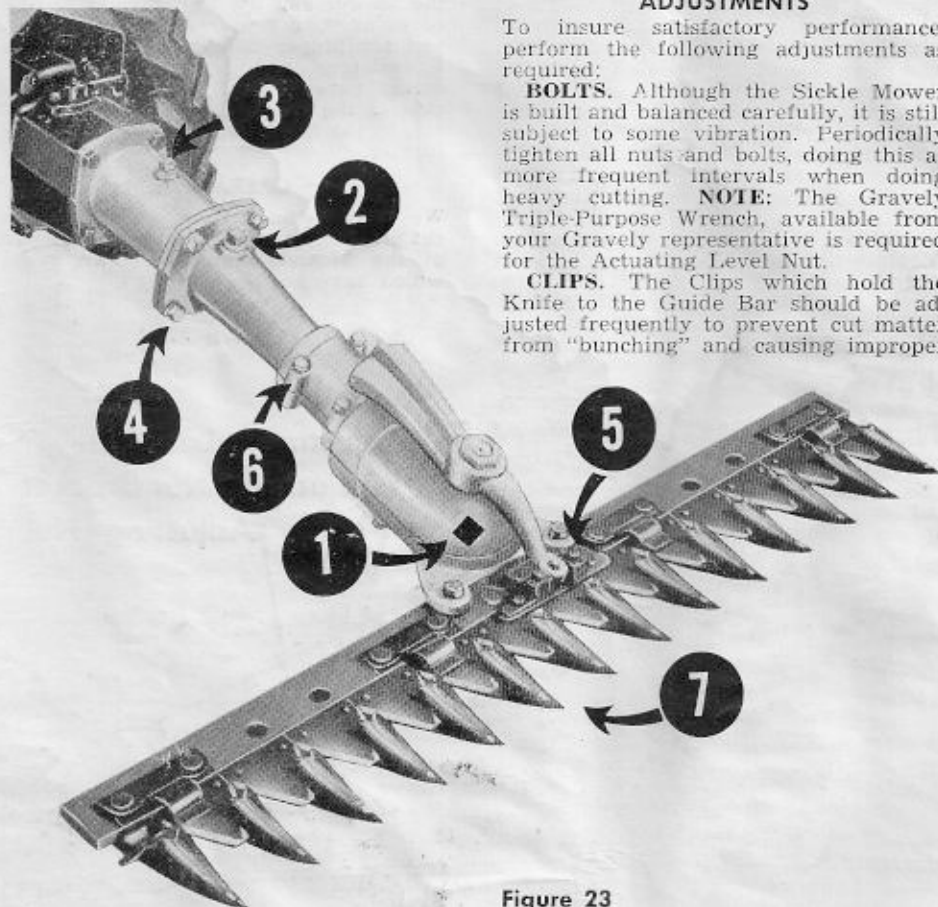

Figure 23
Check the Drive Assembly oil level every four hours of operation by removing the Oil Level Plug, 1 in Figure 23. If oil runs out, the oil level is all right; if not, oil must be added.
To add oil, remove the Oil Filler Plug, 2 in Figure 23, and pour oil through the Oil Filler Hole until oil begins to run out the Oil Level Hole. Replace both Plugs before mowing.
To lubricate the Universal Joint, remove the Grease Plug, 3 in Figure 23, and fill about half-full with Mobilgrease MP.
Because the Universal Joint needs lubrication only occasionally, you may prefer this method: with the Mower detached from the Tractor, remove the Safety Clutch and four bolts, 4 in Figure 23, which hold the lower column to the universal housing and slip the housing partly off. Then apply Mobilgrease MP generously to the Universal Joint (coat it all over with one to 1½ inches of Mobilgrease MP. Reassemble all parts,
For best performance, keep the Knife Sections sharp. To remove the Knife for sharpening, remove the Knife Bracket Screws, 5 in Figure 23, and slip the Knife out either side. Grind the Knife Sections along the same bevel as ground originally. When replacing the Knife, make sure the Knife Bracket Screws are tightened firmly.
**SWIVEL ACTION.** To increase swivel action (allowing the Mower to follow the contour of the ground), loosen the bolts, 6 in Figure 23. When these bolts are tightened firmly, the Mower is held in a rigid position. The bolts should be tight enough so the Guide Bar will hold its position until lowered, but loose enough for the Guide Bar to follow the contour of the ground.
**GUARDS.** Always keep the Guards, 7 in Figure 23, in alignment by tapping these with a light hammer until the Knife Sections lie flat on the Shear Plates of the Guards. Keep the Guard Bolts tightened securely.